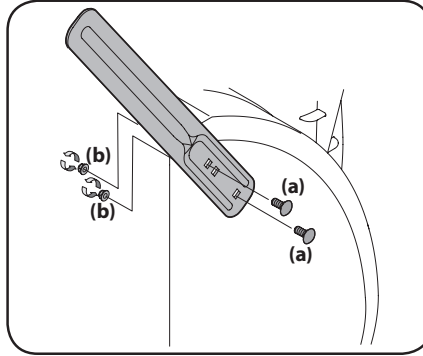

Figure 2-46
1. Remove two screws (a) and lock nuts (b) that secure each drift cutter, and remove them from the sides of auger housing. See Figure 2-46.
2. Turn the drift cutters around and position them as shown in Figure 2-46 to the outside of the auger housing.